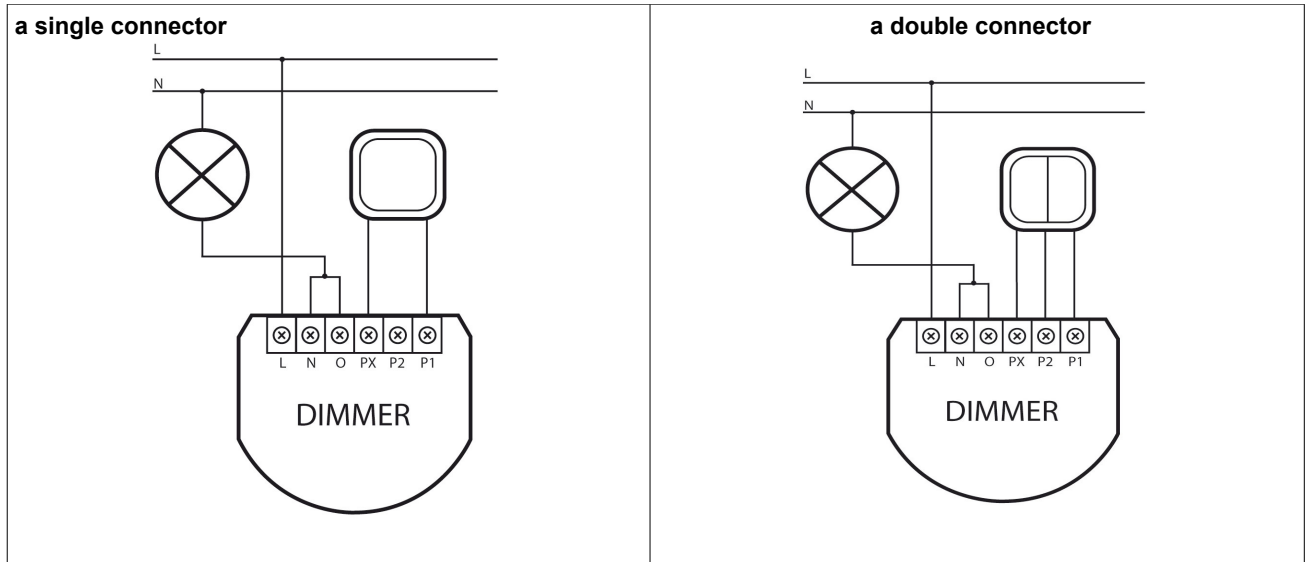

Fig.1 Electrical diagram of dimmer's connection – without neutral wire
4. Place the antenna (the hints are located below figure 1 and 2).
STEP 1 Connect the device according to the electric diagram shown on figure 1. Turn off the power supply 230V.